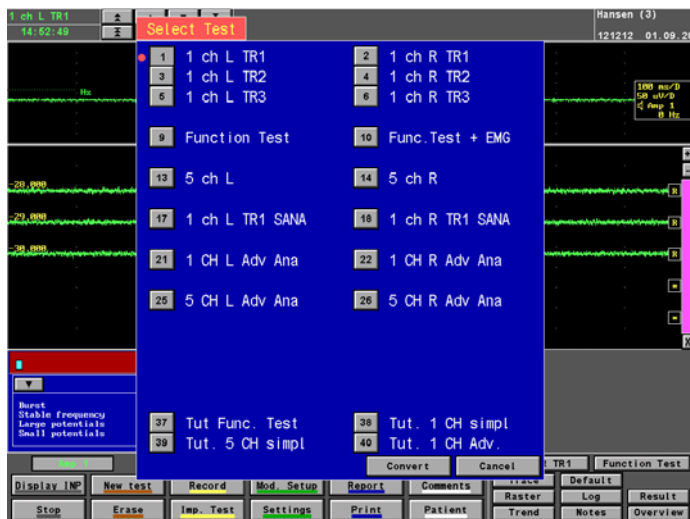

Figure 37 The Select Test Menu including the Convert Button situated in the lower-right part of the screen
- Click **New test** situated in the lower-left part of the screen, and the Select Test Menu reappears including the Convert button, see Figure 37 below: